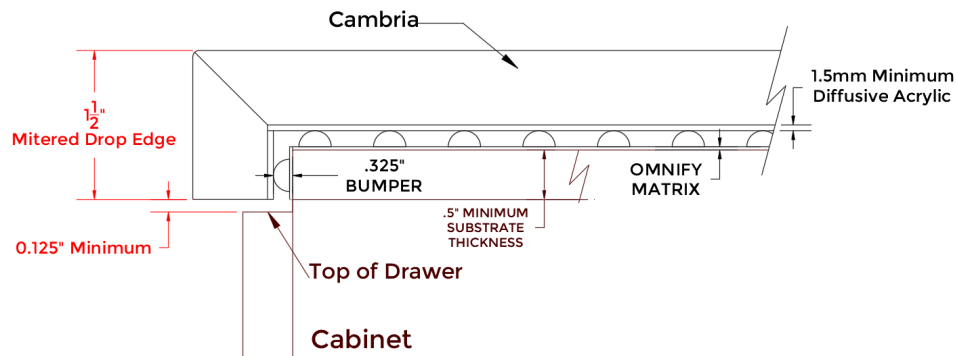

Figure 7
9. Cambria is properly raised above the Omnify Matrix sheet using rubber bumpers and a 1.5mm thick diffusive acrylic layer. Bumpers must be spaced no more than 3" apart to achieve full support per Cambria installation standards. For Omnify Matrix sheets, this means that a bumper must be placed every fourth square. The diffusive acrylic layer is placed between the bumpers and Cambria. **See Figure 7.**